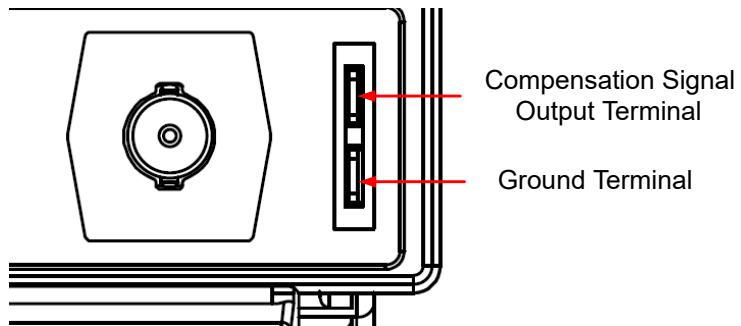

Figure 4.7 Using the Compensation Signal
2. Connect the ground alligator clip of the probe to the "Ground Terminal" as shown in *Figure 4.7*.
3. Use the probe to connect the input terminal of CH1 and the "Compensation Signal Output Terminal" of the probe, as shown in Figure 4.7.